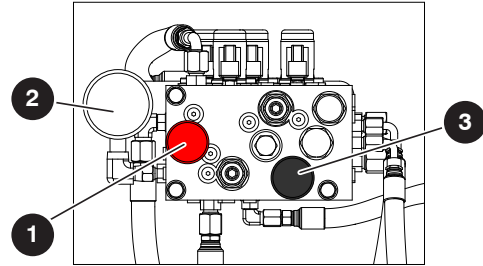

Figure 28 Brake Manifold
4. Push in black brake valve plunger (item 3 - Figure 28).